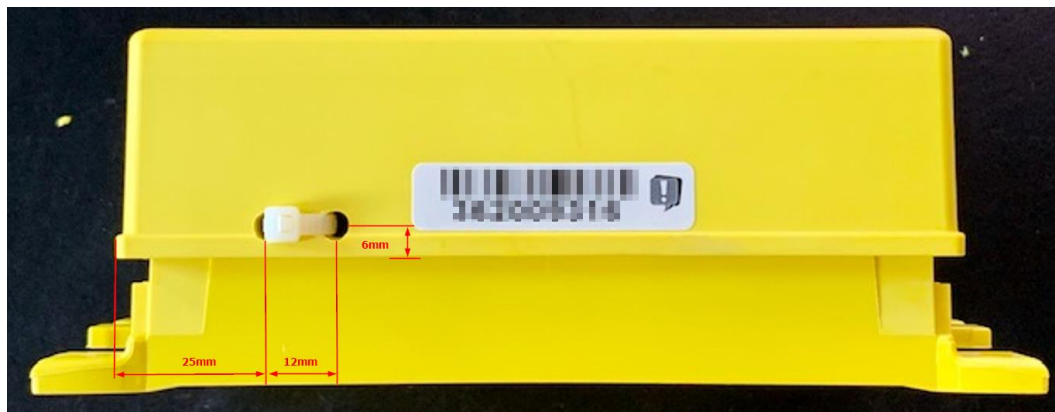

Figure 11: Fall protection with cable tie
- First hole (left hole according to Figure 11: Fall protection with cable tie) 25mm from the left edge (measured at the rebate) and 6mm from the rebate edge.
- Second hole (right hole according to Figure 11: Fall protection with cable tie) 37mm from the left edge (measured at the rebate) and 6mm from the edge of the rebate.